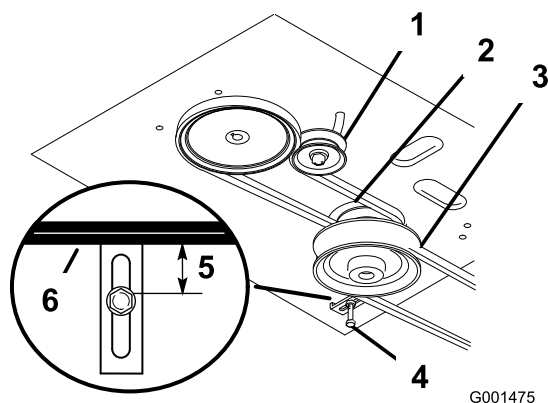

Figure 37
4. Remove the mower belt; refer to Replacing the Mower Belt (Figure 37).
5. Loosen the pivot bolt enough to slide the idler pulley in the slot and remove the traction belt from the engine and the drive pulleys (Figure 37).
6. Install the new drive belt around the engine and the drive pulleys (Figure 37).
7. Slide the idler pulley in the engine frame to tension the traction belt (Figure 37).
8. Install the mower belt (Figure 37).
9. Check the belt guide under the engine frame for the proper adjustment (Figure 37).